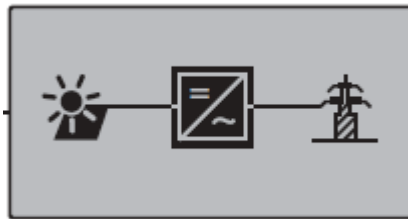

Figure 5: Main menu screen.
- 1.- Press the  button in the main menu until the inverter icon appears shaded, as shown in **Figure 5**.